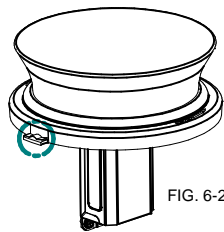

FIG. 6-2
2. Install clips into the Slipfitter cap tabs per FIG 6-2. Do not place backwards.